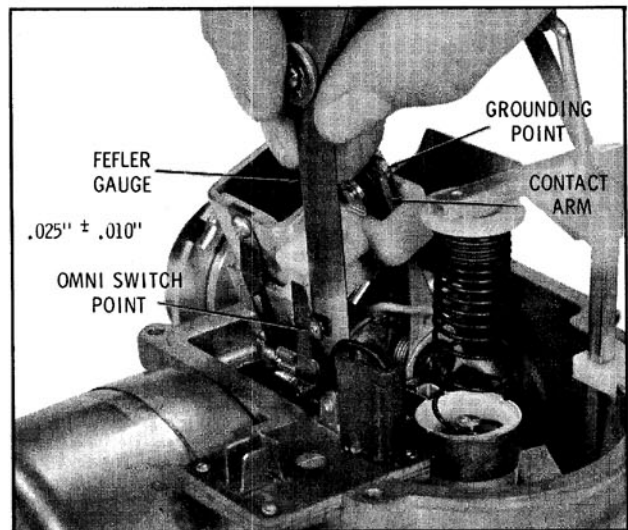

Fig. 12-51 Checking Omni Switch Adjustment
4. Using a feeler gauge, measure gap opening between points of omni switch. (Fig. 12-51) This gap must be $.025'' \pm .010''$. If gap is not within specifications, bend inboard point (inboard from magnet assembly) until proper gap is obtained and points are aligned.
39. With magnet assembly still in wide open throttle position, measure gap opening between omni switch points. (Fig. 12-51) This gap must be $.025" \pm .010"$. If gap is not within specifications, bend arm of inboard point (inboard from magnet) until proper gap is obtained and points are aligned.